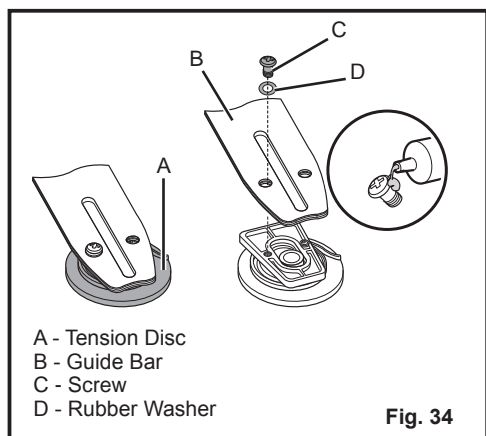

Fig. 34
- Reverse the guide bar from time to time to allow for even wear, which will extend the life span of the bar. Loosen the screw and remove the tension disc from the guide bar. Ensure the rubber washer on the screw is free of wear. Turn the guide bar and fix the tension disc with the screw. Apply a drop of suitable glue to the screw to ensure its safe positioning when reassembled (Fig. 34).